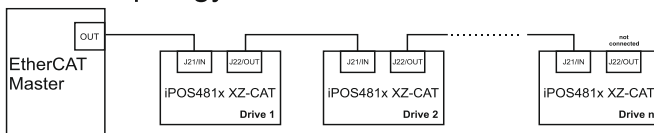

Figure 35. EtherCAT network linear topology
- Linear, when the J7 / OUT port of the last drive in the chain remains not connected. Master is connected to J6 / IN port of the first drive; J7 / OUT of the first drive is connected to J6 / IN of the following drive; J7 / OUT of the last drive remains unconnected. See **Figure 35. EtherCAT network linear topology** for a visual representation of the linear topology.